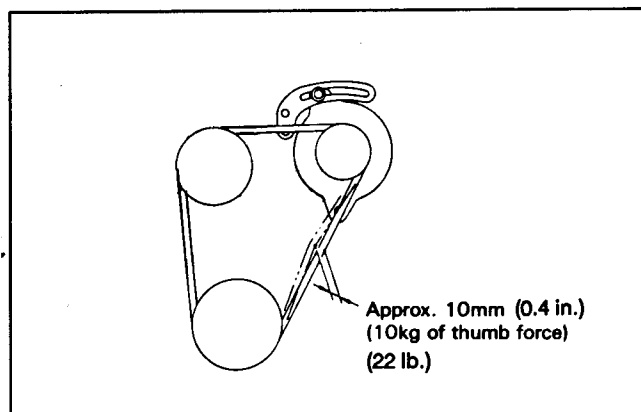

Figure 22
2. Check the belt tension by pushing down on the belt midway between the alternator and crankshaft pulleys (Fig. 22). The belt should deflect  $\frac{3}{8}$  to  $\frac{1}{2}$  in. (10 - 12 mm) when a 22 lb. (10 kg) force is applied to the belt midway between the water pump pulley and alternator pulley.